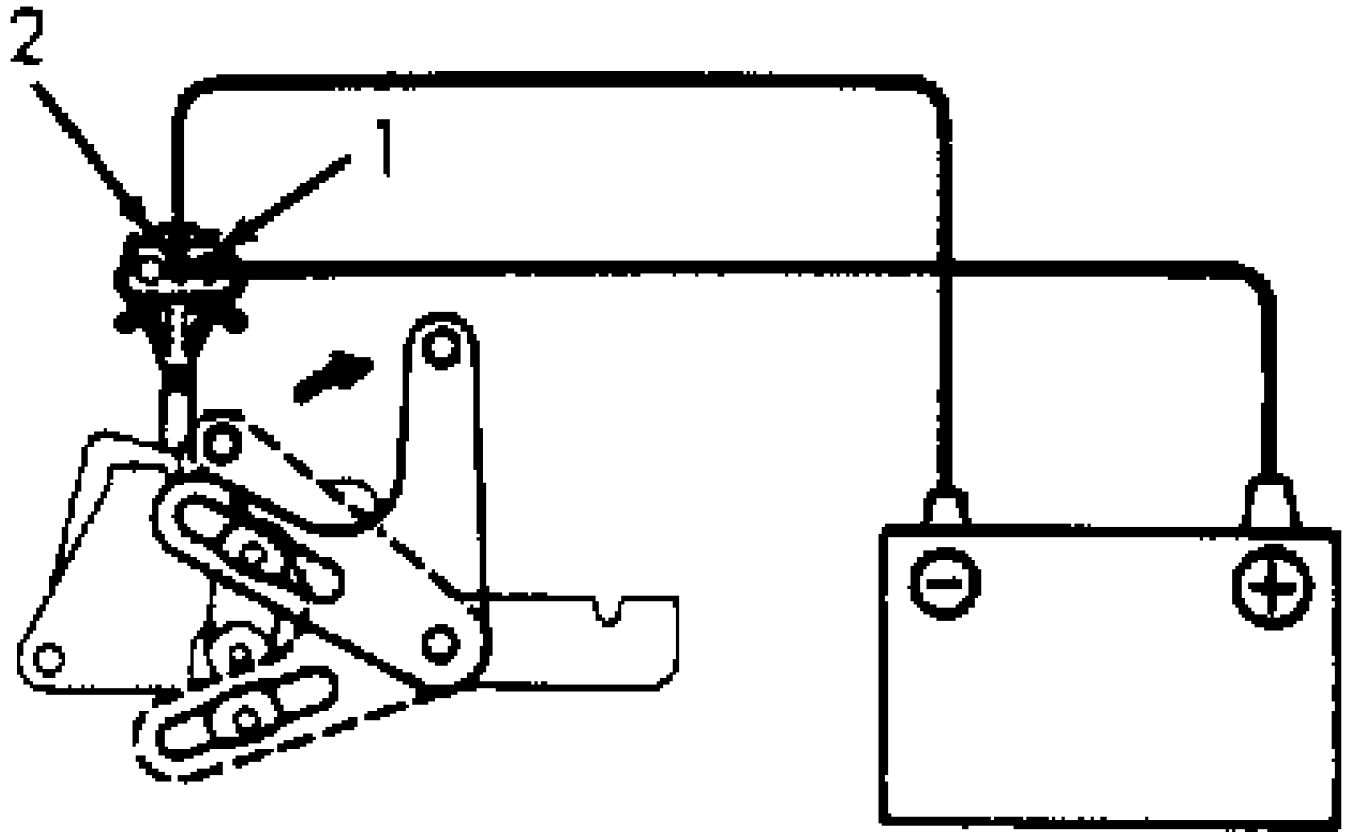

Fig. 9: Recirc/Fresh Servo Motor Connector
1) Disconnect recirc/fresh servo motor connector. Connect a battery positive jumper lead to terminal No. 1. Connect battery negative jumper lead to terminal No. 2. Servo motor lever should move smoothly from fresh to recirc. See Fig. 9.